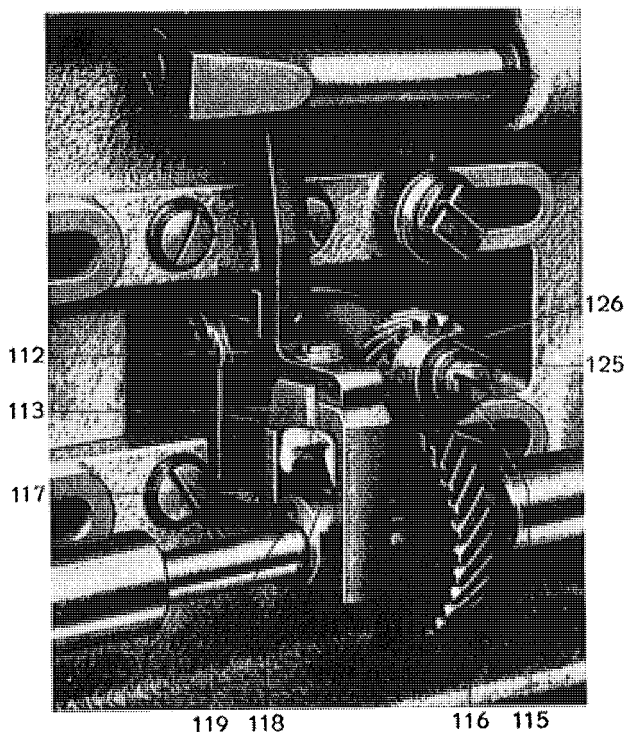

Fig. 26
2. Loosen fastening screw 112 (fig. 26) and adjust the height of the feed dog by vertically displacing eccentric fork 113. Supporting screw 117 must be regulated according to the displacement of eccentric fork 113.
In this position, the tip of the hook should be located exactly against the centre of the needle. To effect an adjustment loosen fastening screws 125 (fig. 26) of screw wheel 126 and rectify the position of the hook as required. Following the adjustment, retighten firmly fastening screws 125.